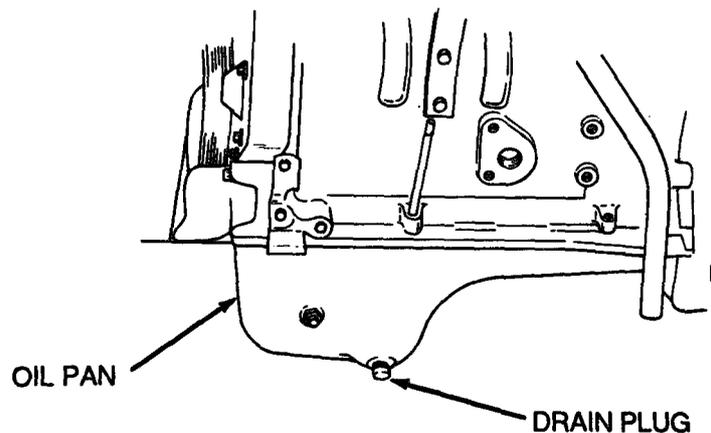

Figure 3-5
4. Place a suitable container under engine oil pan and remove drain plug (Figure 3-5). Engine holds 10 qt (9.46 L). Drain engine oil.